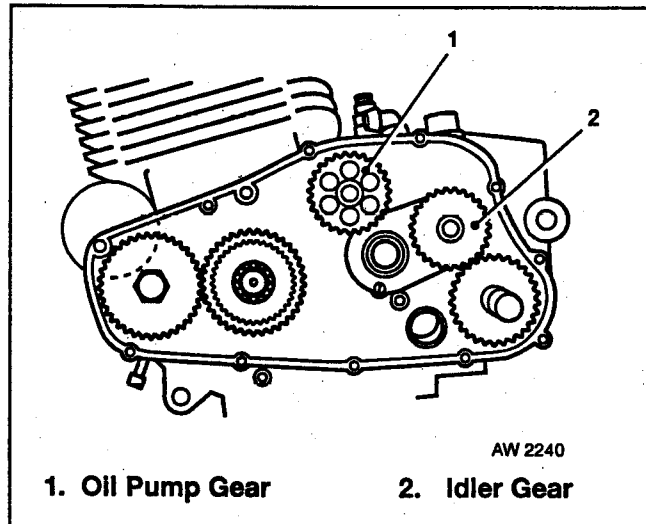

Fig 2.28 Idler and Drive Gear Installation
a. Prior to assembling the clutch hub, position the idler and drive gears as illustrated in Fig 2.28. Note that the flanged side of the idler must face towards the crankcase.
b. Position the thrust washer (5).